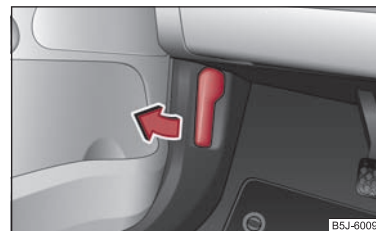

Fig. 12 Bonnet release lever
- Pull the unlocking lever below the dash panel on the driver's side ⇒ fig. 12.